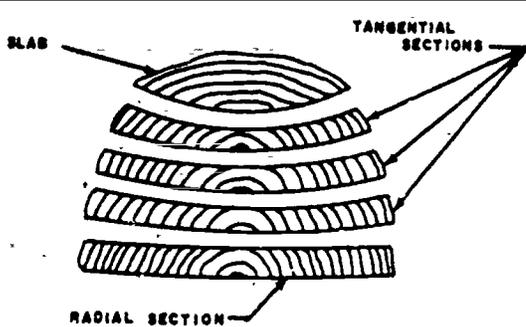

Figure 48. Effects of wood shrinkage.
7-11. **Types of Shrinkage.** Wood shrinks in three directions: (1) along the circumference, (2) along the diameter, and (3) lengthwise. The lengthwise shrinkage is so small that ordinarily it can be disregarded. The shrinkage around the circumference is from one to three times greater than the shrinkage along the diameter. Figure 48 illustrates the effects of shrinking. Note that the board sawed through the center is practically straight. The reason for this is that it is sawed at right angles to the annual rings. When lumber is sawed in this manner, the an-